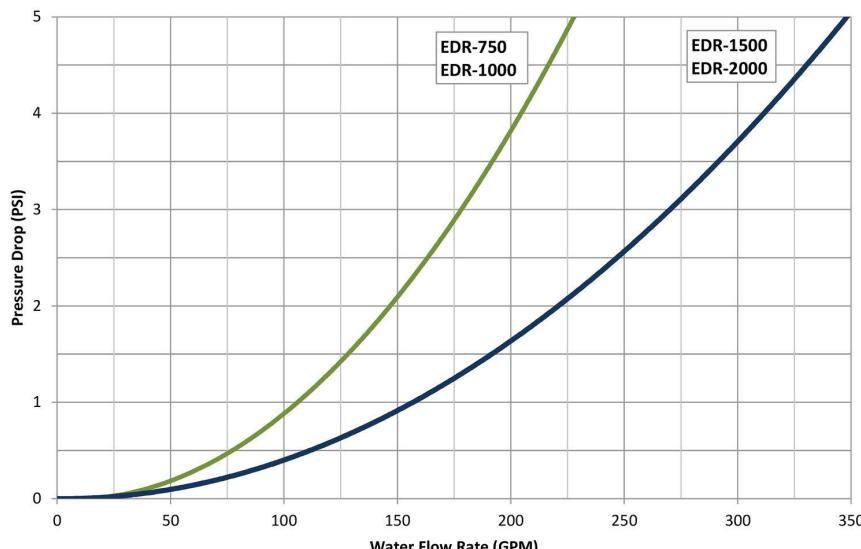

FIGURE 3 - TYPICAL WATER SIDE PRESSURE DROP
- *Select pump(s) with sufficient total dynamic head for the pressure drop of the loop at design flow. See Figure 3 for the water side pressure drop through the boiler. The Endura boiler does not have a minimum flow requirement. It will automatically perform a safe shutdown in the event of a low flow or zero flow condition; however, proper design flow will be required to deliver heat to users and prevent nuisance high temperature limit trips.*
- Install the dedicated boiler circulator on the inlet side of the Endura boiler, pumping into the return connection. Select pump(s) with sufficient total dynamic head for the pressure drop of the loop at design flow. See Figure 3 for the water side pressure drop through the boiler.